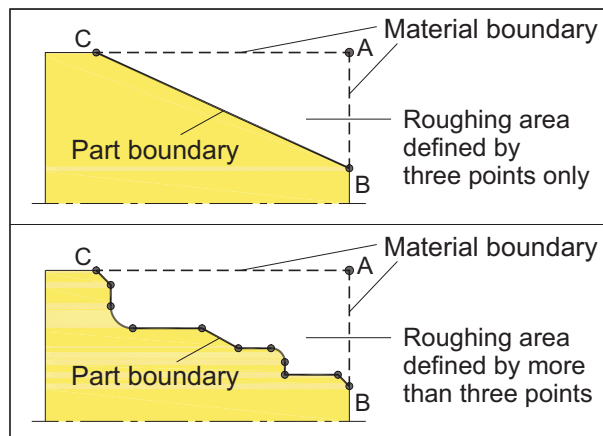

Figure 35-11
The two defined boundaries create a fully enclosed area that defines the excessive material. From this isolated area, the material is removed in an orderly way, following specified machining parameters in the cycle call block or blocks. Mathematically, the minimum number of points that can define an area is *three*. These three points must be nonlinear (meaning not on the same line). *Figure 35-11* shows a simple boundary with only three points and a boundary consisting of many points.
*Part boundary* is defined between points B and C, and may have any number of points between. For CNC programming, different descriptions will be used rather than the generic ABC points in *Figure 35-11*.